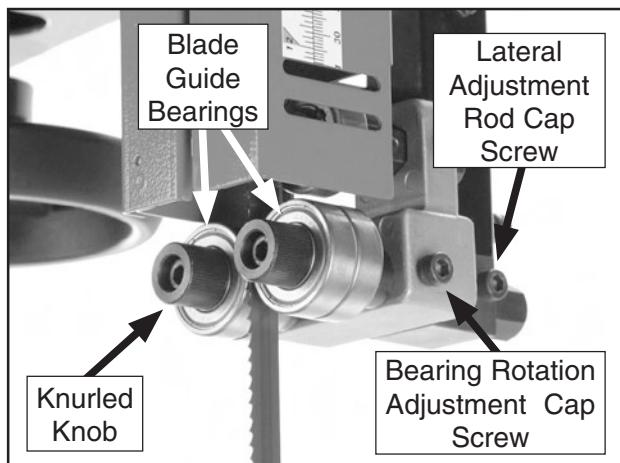

Figure 45. Blade guide controls.
- Familiarize yourself with the blade guide controls shown in **Figure 45**.